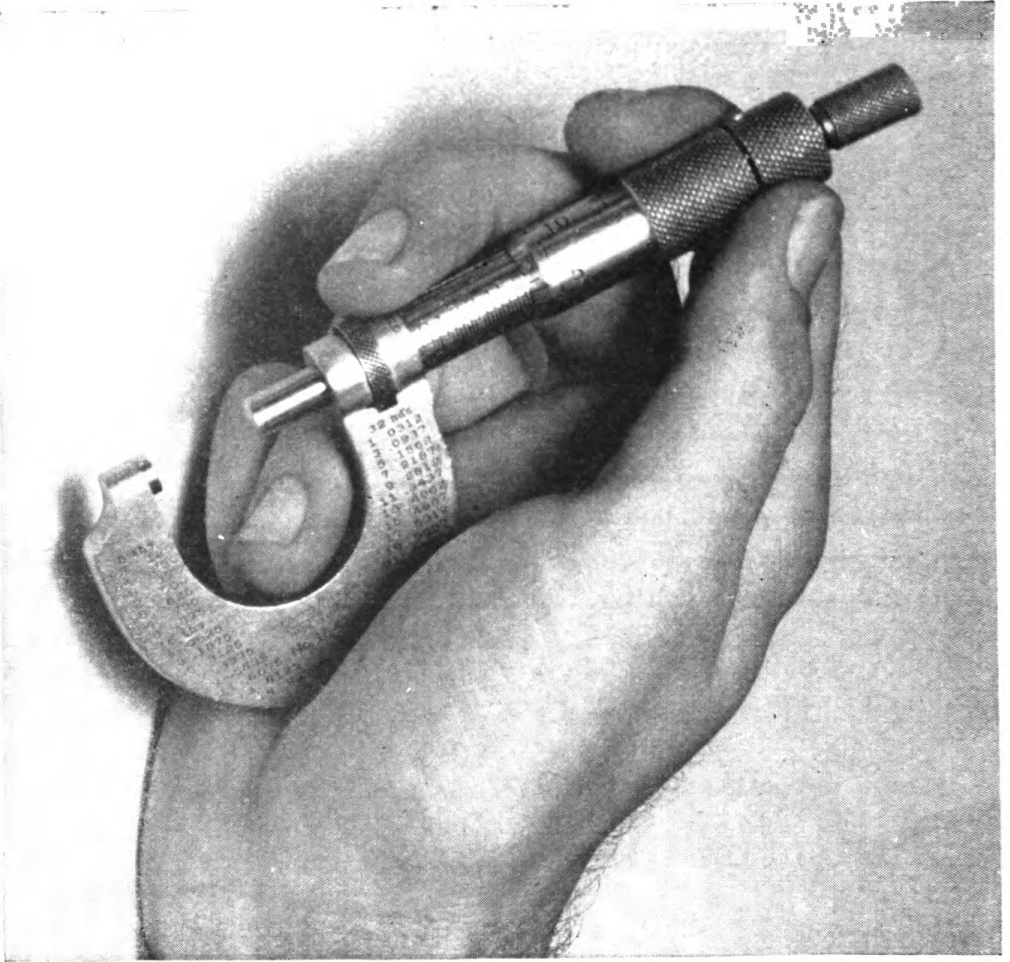

Figure 77. Correct way to hold a small micrometer.
*f. USE AND CARE.* (1) The first step in using a micrometer is holding it correctly. It should be held as shown in figure 77. This leaves one hand free to hold the stock that is being measured. On large work the micrometer is held in both hands. The thumb and first finger are used to turn the thimble until the anvil and spindle just touch the stock. Only a very slight tension should be applied, and it should be the same every time the micrometer is used. It is rather easy to spring a micrometer  $\frac{1}{1,000}$  inch and thereby get an inaccurate reading. Many micrometers have a ratchet on the end of the thimble which will slip when the tension becomes great enough. This is an aid to the beginner since it prevents overtightening. The spindle of the micrometer should always